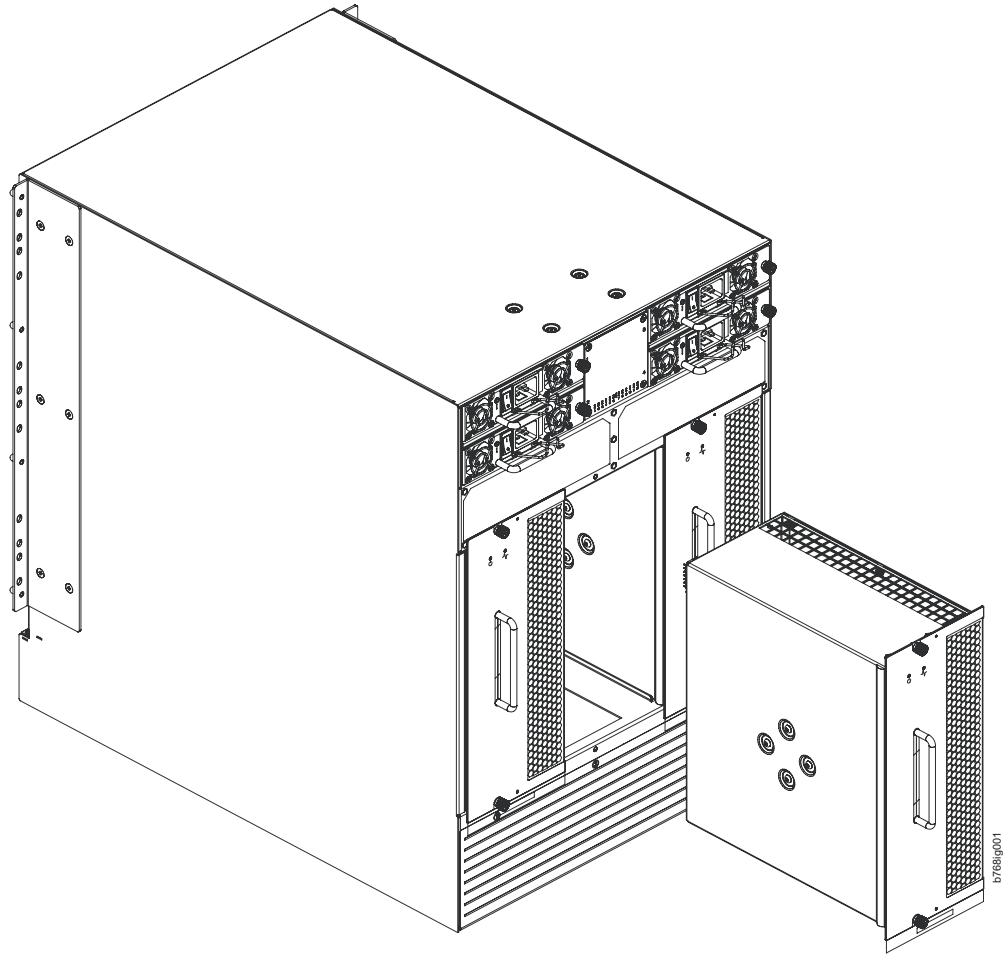

Figure 38. Removal and replacement of the blower assembly
2. Use the Phillips screwdriver to loosen the captive screws at the top and bottom of blower assembly (see Figure 38 on page 91).